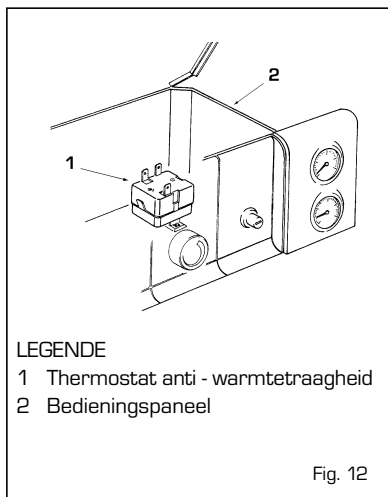

Fig. 12
3.3 THERMOSTAAT ANTI WARMETRAAGHEID (fig. 12)